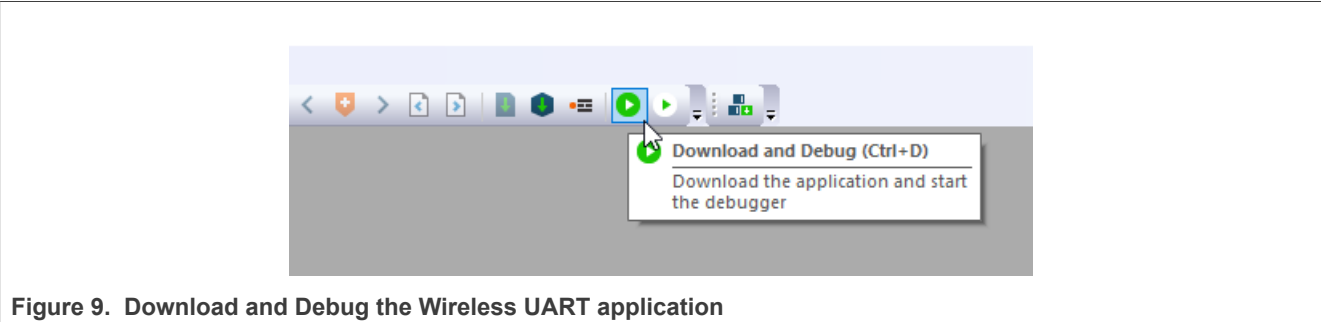

Figure 9. Download and Debug the Wireless UART application
6. Click the **"Download and Debug"** button (or **CTRL+D**) to flash the executable onto the board, as seen in Figure 9.